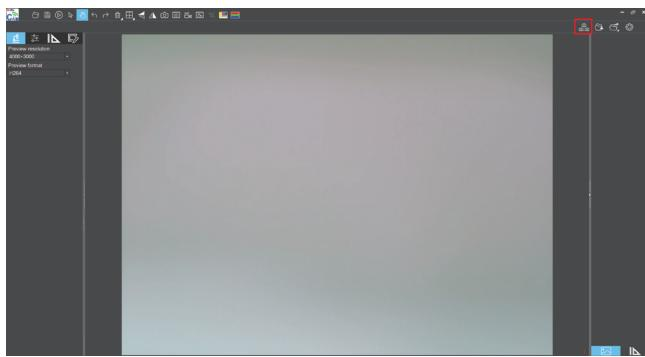
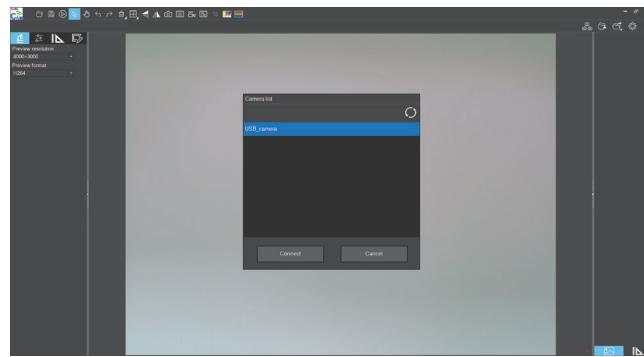

Figure 1
Figure 2
- (1) Connect a Windows PC or laptop that supports 5G WiFi IEEE802.11ac protocol to the same local area network as the camera.
- (2) Install and run the software KoPa Capture Pro on the Windows PC or laptop.
- (3) When there is only one network camera in the local area network, the software can automatically get the live image from the camera.
- (4) When there are multiple network cameras in the same local area network, click the icon in the upper right corner of KoPa Capture Pro (Figure 1), the list automatically shows all cameras in the current local area network (Figure 2), select a camera as needed, support switching midway at any time.